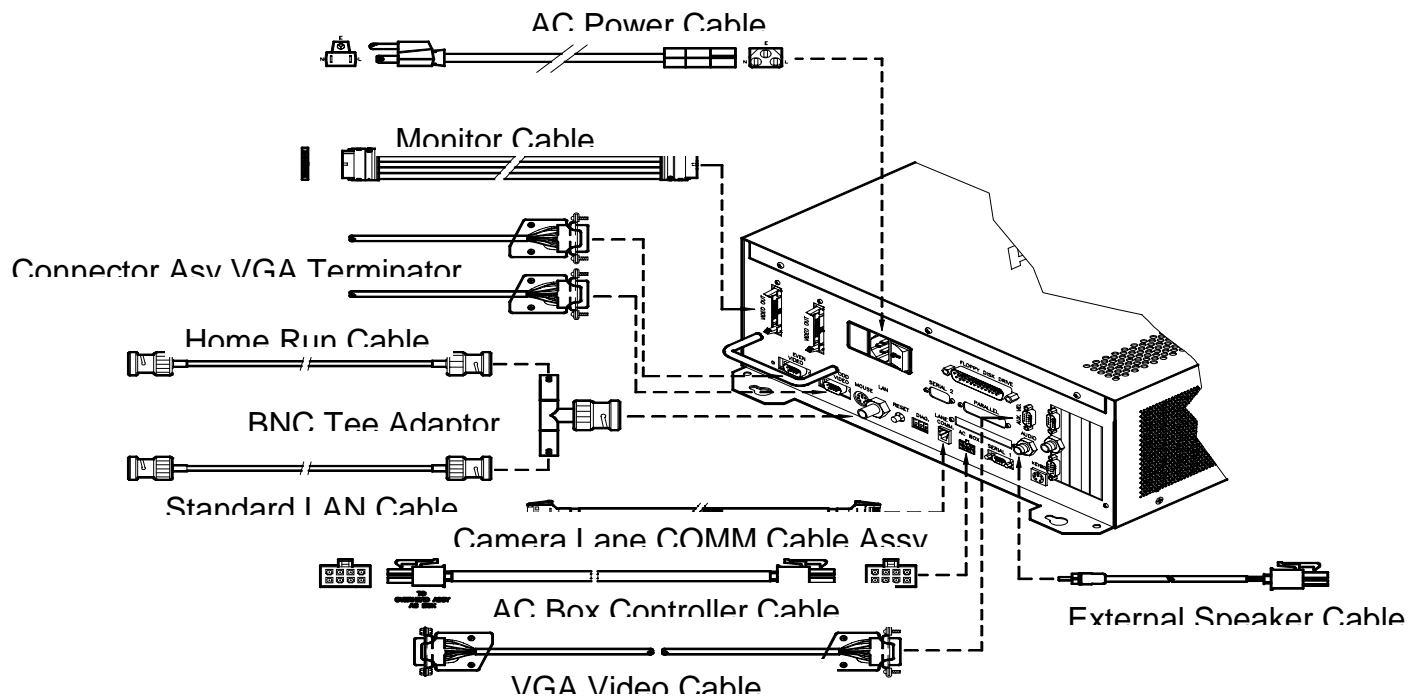

Figure 3-2 CPU Cable Connections
1. At the rear of the monitors and CPU (see Figure 3-2), CONNECT cables required for operation: